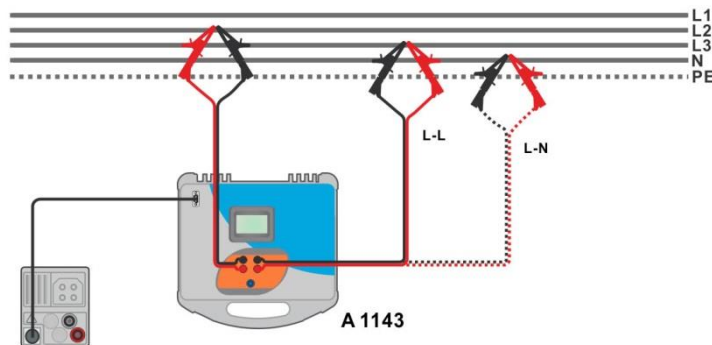

Figure 7.50: Phase-neutral or phase-phase high precision Line impedance measurement – connection of A 1143
- › Connect test leads to the object under test, see **Figure 7.50**.